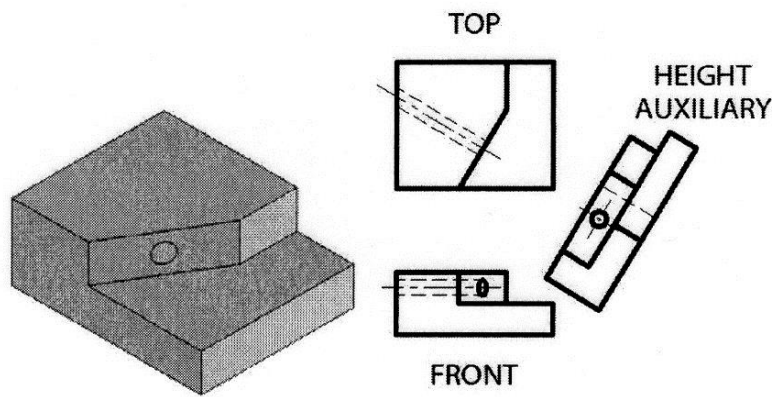

Figure 2. Height Auxiliary.
- b. Height auxiliary – The inclined surface will appear foreshortened in a front view and a right-side view. The inclined surface will appear as a line or edge in the top view (see Figure 2).